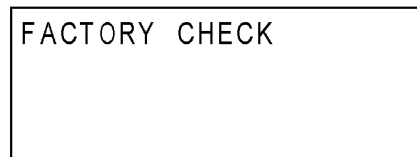
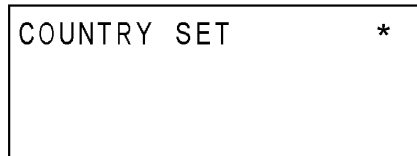

Fig. 2
Fig. 3
The Inspection Mode is initiated by holding down the “Code”, “K” and “ON/OFF” keys simultaneously when the internal RAM is cleared while electrical power is OFF. (The display shifts to one as shown in Fig.2 when shifting to the Inspection Mode.)
- (1) Press the “RET” key while the LCD displays as shown in Fig. 2. The display shifts to the Specification Change Mode as shown in Fig. 3.